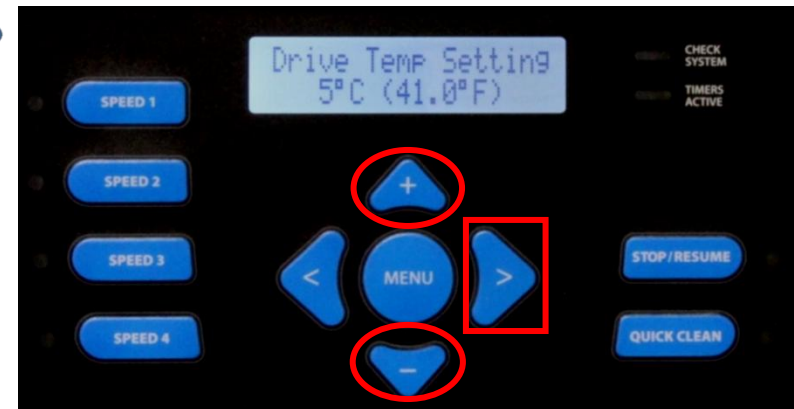

Fig 48
17. In this screen you will be asked to set the Drive Temp Setting (fig 48). Default is 41° F. This Temperature can be adjusted between 35.6 and 50° F. by pressing the  &  buttons. Press the  button to continue. Setting will show in both “C” and “F”.